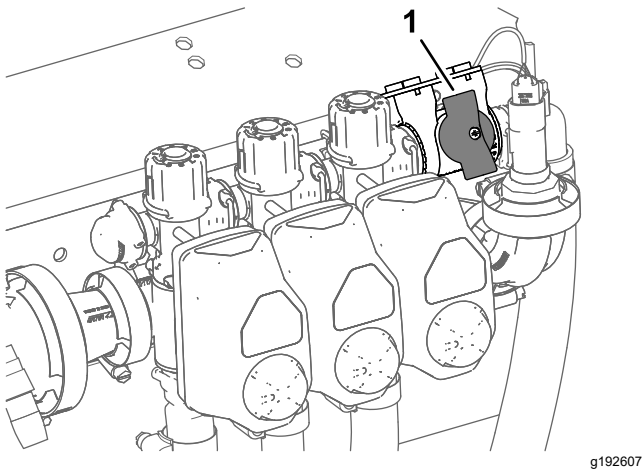

Figure 44
4. For machines operated in the application-rate mode, ensure that the knob for the section-bypass shutoff valve is in the closed position (Figure 44).
5. For machines operated in the application-rate mode, ensure that the section-bypass shutoff valve is closed (Figure 44).